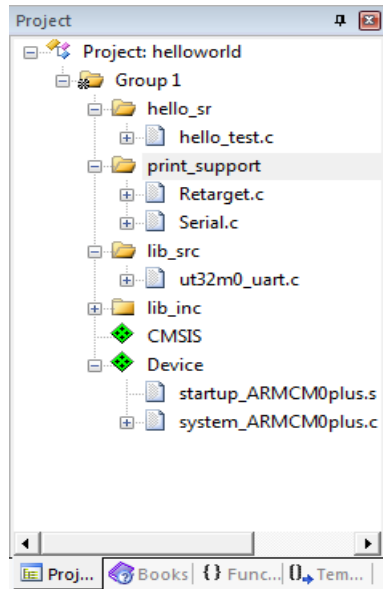

Figure 6: Add Source and Include Files
- 8) Right-click on **Target1** and select **Add Group...** to create groups for source and include files for Cobham's Standard Peripheral Library. Add sources and include files to their respective directories, see **Figure 6**